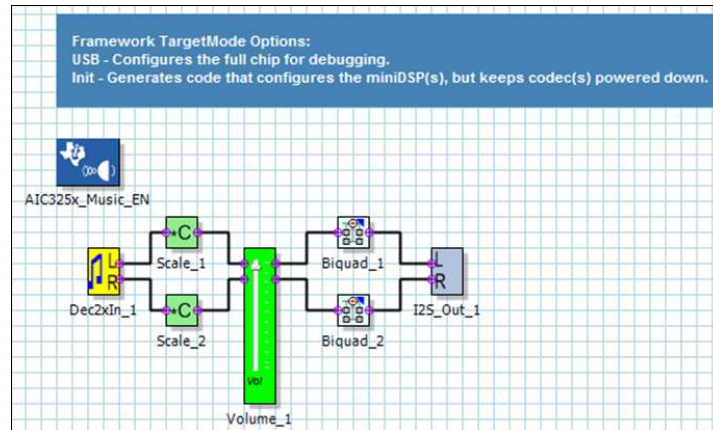

Figure 2. Generic Music Chip Process Flow
6. In one instance, open the desired **Music Chip** process flow (for example, ATHY1-MUS-24.0000-3BQ-LOWPWR). It should look something similar to Figure 2.